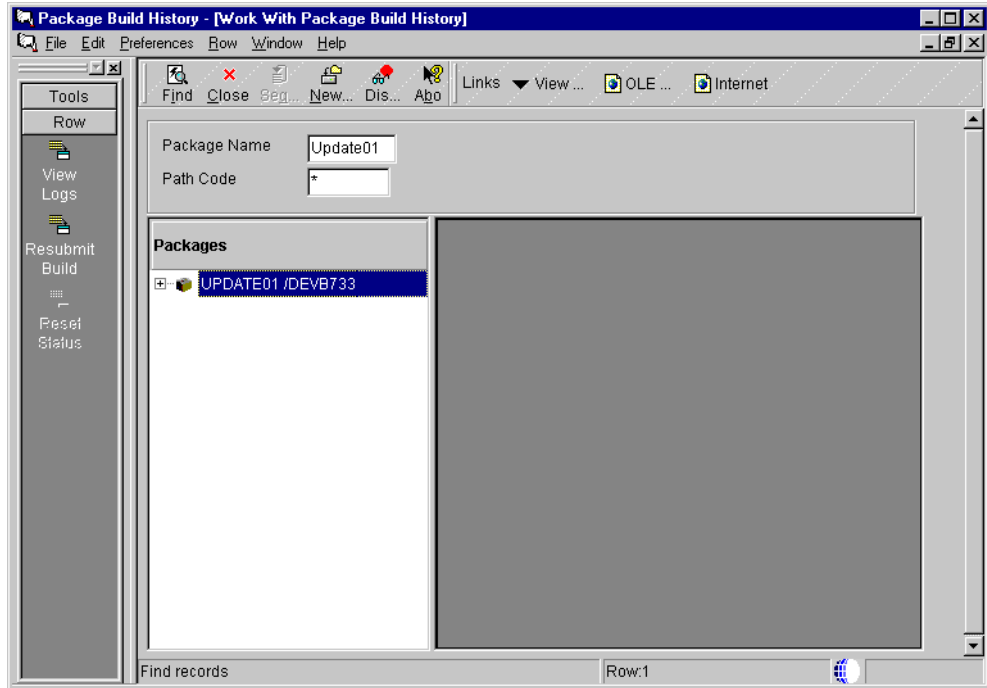

Figure 159. Work With Package Build History
1. On the Package Build menu (GH9083), choose **Package Build History** (P9622). The Work With Package Build History form appears (Figure 159 on page 366).